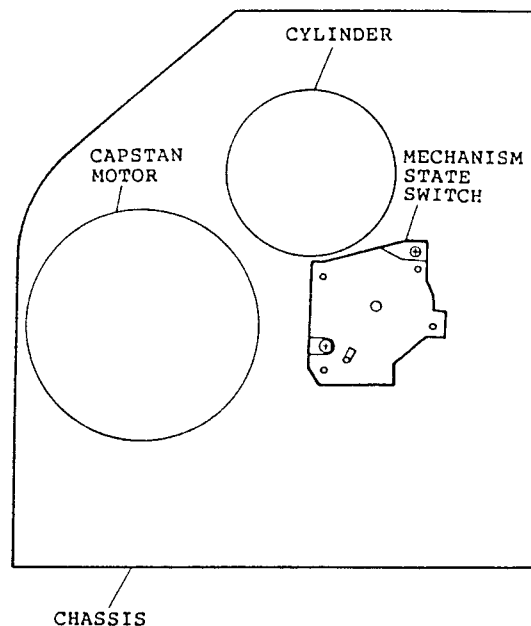

Fig. 3-5
- 2) Assemble the mechanism state switch into the chassis in the conditions set in step 1). (See Fig. 3-5)